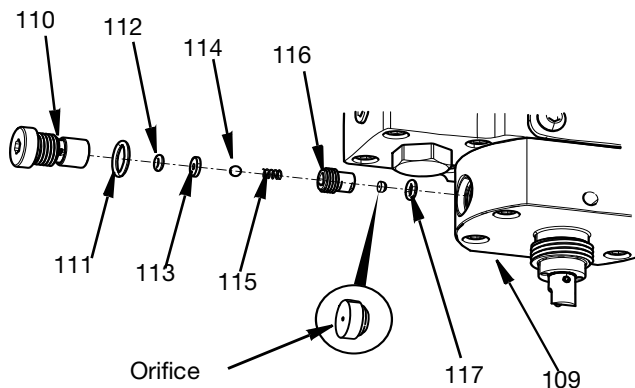

FIG. 48
2. Remove the check valve body (110) using a 5mm allen wrench.
3. Remove orifice and O-Ring (117) from the bottom of the check valve housing (109).
4. Unscrew the check valve retainer (116) from the check valve body (110) using a 6 mm wrench (1/4 in.) wrench and 5mm allen wrench.
5. Remove the check ball (114), comp spring (115), valve seat (113), and O-ring packing (112) from the check valve body (110). See FIG. 48.